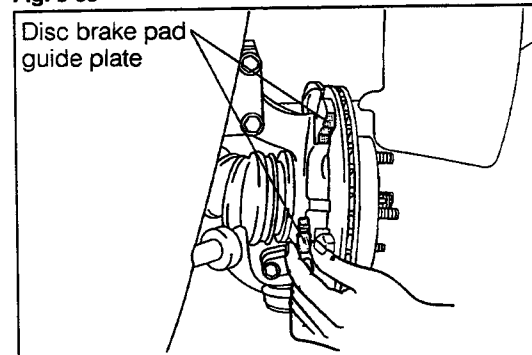

Fig. 8-84
1. Install the disc brake pad guide plate on the knuckle. (See Fig. 8-84.)